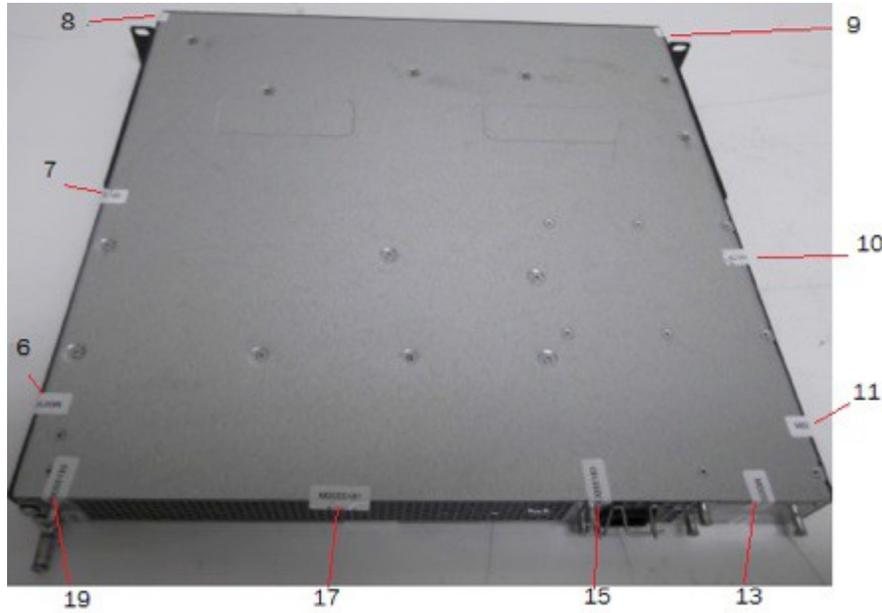

Figure 51 - Bottom view of Brocade CES 2024C-4X device with security seals
- Rear: Affix eight (8) seals across the back of the chassis to inhibit the removal of a power supply, power supply filler panel or fan module. Seal 12 wraps from the top cover to the filler panel. Seal 13 wraps from the bottom cover of the chassis to the filler panel. Seal 14 wraps from the top cover to the power supply module. Seals 16 and 18 wrap from the top cover to the fan module. Seal 15 wraps from the power supply module to the bottom of the chassis. Seals 17 and 19 wrap from the fan module to the bottom of the chassis. See Figure 50 and Figure 51 for correct seal orientation and positioning.